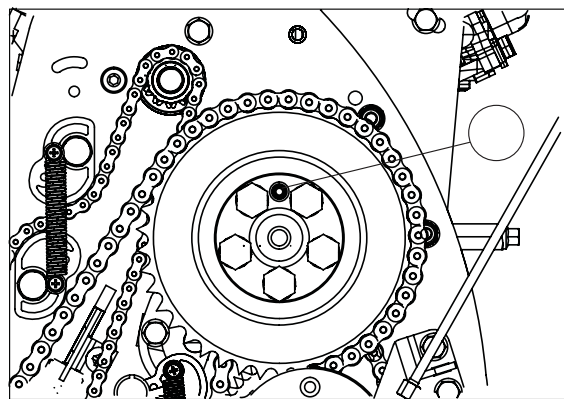

Fig 11.4b
- Landroll clutch [A] (Fig. 11.4b).